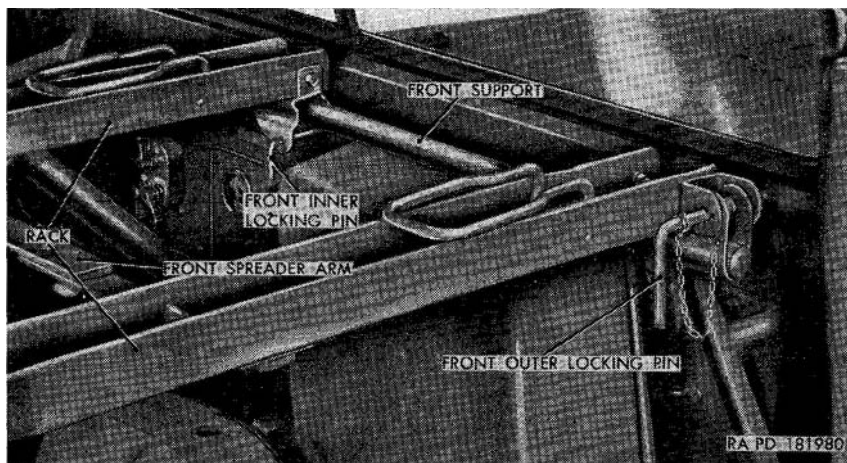
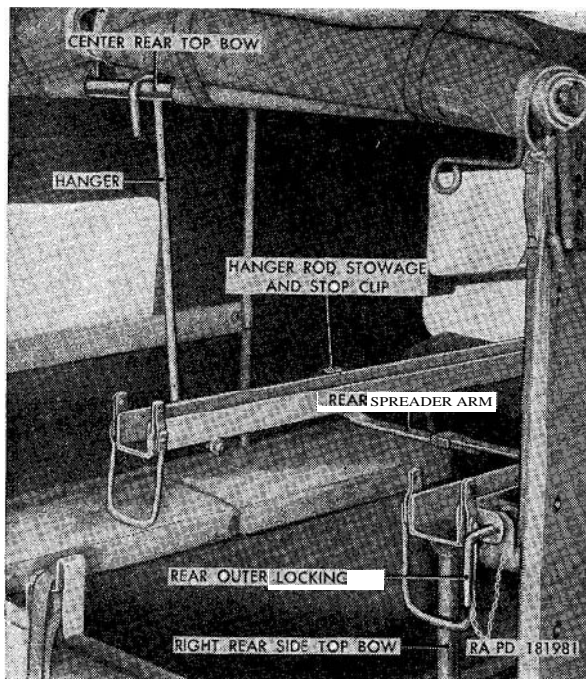

Figure 199. Upper litter rack front connections.
Figure 200. Upper litter rack, rear convections.
- (1) *Removal.* Working in the driver's compartment, withdraw the upper litter rack front inner locking pin (fig. 199) from the hole in the bracket front side on the upper litter rack underside to unlock the rack inner side from the upper litter front support. Withdraw the upper litter rack front outer locking pin from the bracket on the rack front outer side and the bracket on the front support to unlock the rack outer side from the front support. Push the middle of the upper litter rack front spreader arm forward to unlock it. Pull the rack inner side toward the outside of the vehicle until it is up against the rack outer side. Working at the rear of the vehicle, withdraw the upper litter rack rear outer locking pin (fig. 200) from the bracket on the rack outer side and the support bracket on the right rear side top bow. Push the middle of the upper litter rack rear spreader arm to the rear to unlock it. Slide the rack inner side toward the outside of the vehicle until it is up against the rack outer side. Unhook the upper litter rack hanger from the center rear top bow. Remove the rack from within the vehicle.
- (2) *Installation.* Position the upper litter rack within the vehicle so that rack front end rests on the upper litter front
support and the rear of the inner side rests on the. support of the right rear side top bow. Hook the upper litter rack hanger (fig. 200) over the center rear top bow. Lock the rack inner side to the support bracket on the rear side top bow by inserting the upper litter rack rear outer locking pin through the support bracket and the bracket on the rack outer side. Working in the driver's compartment, lock the rack outer side to the upper litter front support, by inserting the. upper litter rack front outer locking pin (fig. 199) through the bracket on the rack front outer side and the bracket on the. support. Lock the rack inner side to the support. by inserting the upper litter rack front inner locking pin through the front side of the bracket on the rack underside. Push the rack inner side toward the center of the vehicle. Lock the rack in extended position by locking the upper litter rack front and rear spreader arms.